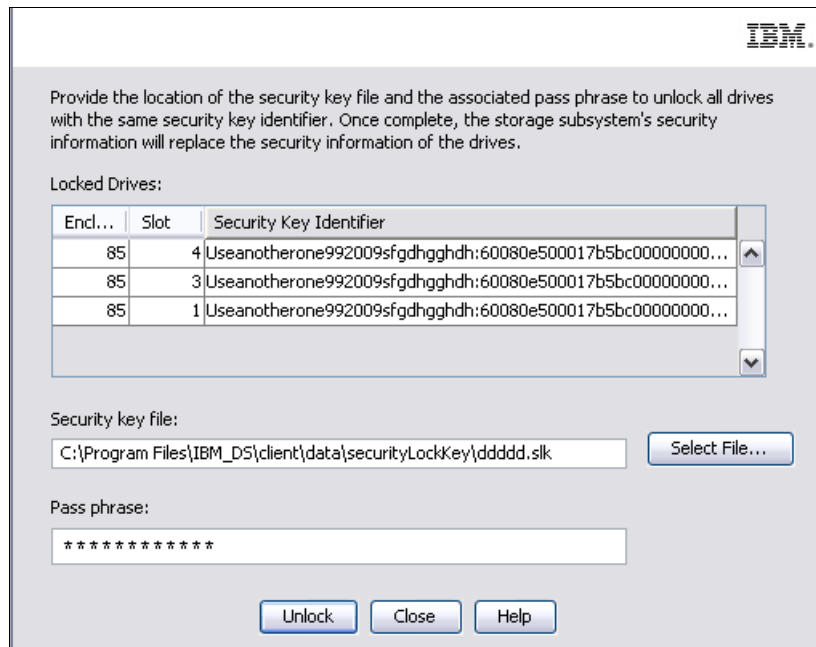

Figure 15-34 FDE drives locked with the key file and pass phrase to unlock
2. The DS3500 storage subsystem will recognize the FDE drives that are locked and will prompt for the key file and pass phrase, as shown in Figure 15-34.